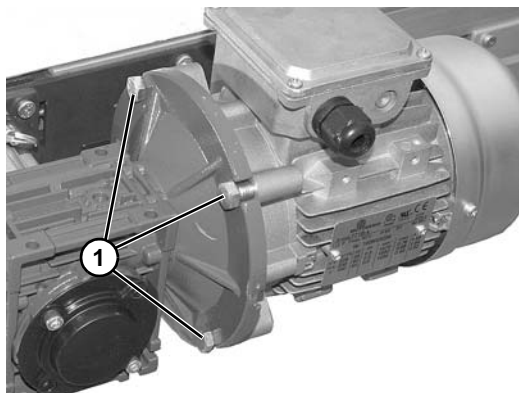

Figure 20
11. Install screws (**Figure 20, item 1**) and tighten to 65 in-lbs (7.3 N-m).